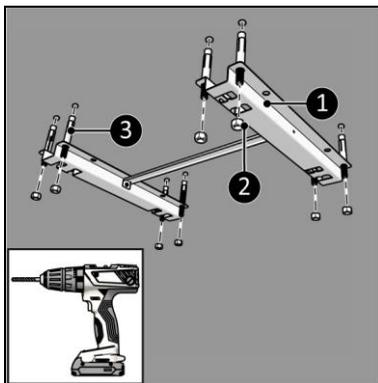

Figure 13
4. Place the bracket against the ceiling and mark the eight holes (Figure 13).
6. Place the anchor bolts (Figure 13, pos. 3).
7. Tighten the bracket (Figure 13, pos. 1) to the ceiling with the eight nuts (Figure 13, pos. 2).